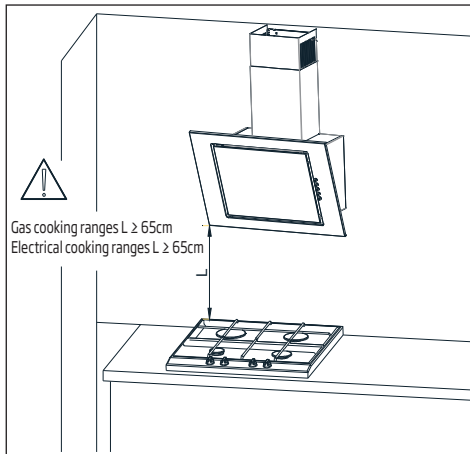
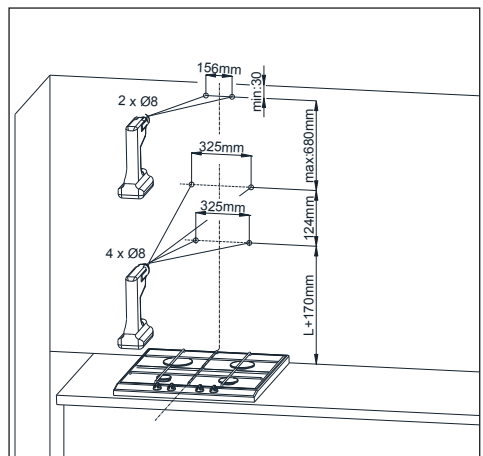
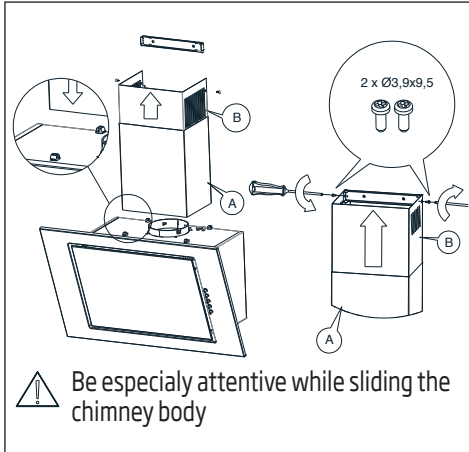

Fig.3 Recommended distances from the cooking range
Fig.4 Assembly dimensions
Fig.9 Chimney body assembly
The minimum distance of hood hanging between the surface of kitchenware placement over the cooking range (gas, electric range), and lowest part of the hood (Fig.3) shall amount at least 65 cm for electric cooking ranges and at least 65 cm for gas cooking ranges. Should the cooking range operation manual provide the higher distance for hood installation, such higher distance requirement shall be maintained. The installation of the hood and chimney body is shown at the figures (Fig.4 - Fig.9). The hood is equipped with the fixing pins matching to the most part of walls and ceilings. In course of the assembly, observe the common rules for air exhaust from the premises.
1. Define the axis of cooking range, and project it onto the wall, where the hood will be mounted. Sign all characteristic points of hood fastening. Make the openings with the drill. (Fig. 4)
Place the chimney body on the hood body. Then, draw delicately the hood part signed with B upwards, until it becomes possible to screw it to the fastening element previously attached to the wall (Fig. 9).